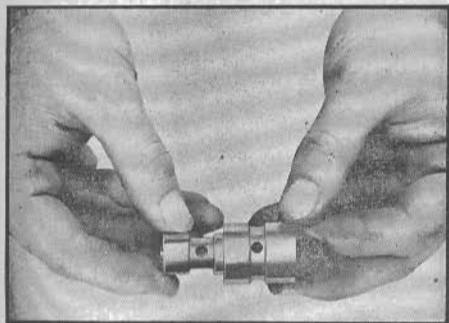

Fig. 31 Hydraulic plunger and body. 1950-52
- Remove hydraulic plunger and body and carefully lay aside to prevent damage. Hydraulic plunger and body consists of an internal plunger and external body, Fig. 31. Care must be taken not to drop plunger from body.